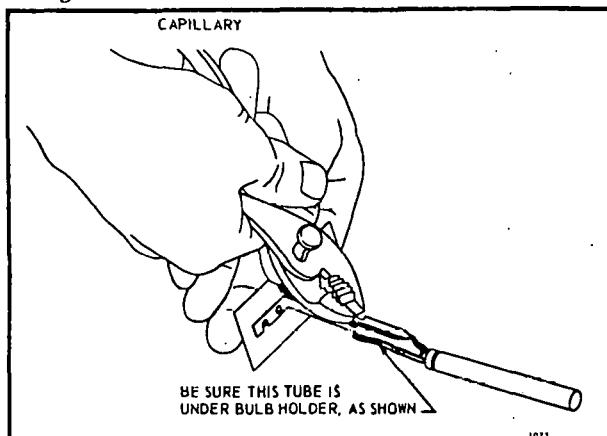

FIG. 4-INSERTING CAPILLARY TUBING IN HOLDER.
4. Place capillary tubing in bulb holder channel, and pinch top edges of holder together at each segment, as shown in Fig. 4.